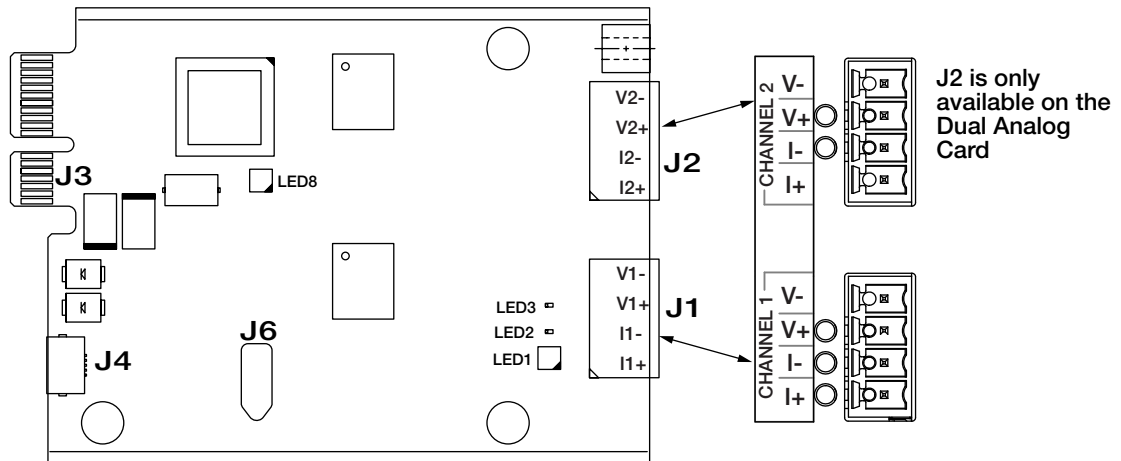

Figure 3. Analog Output Cards (Dual Shown)
6. Make connections to the option card. See Figure 3.